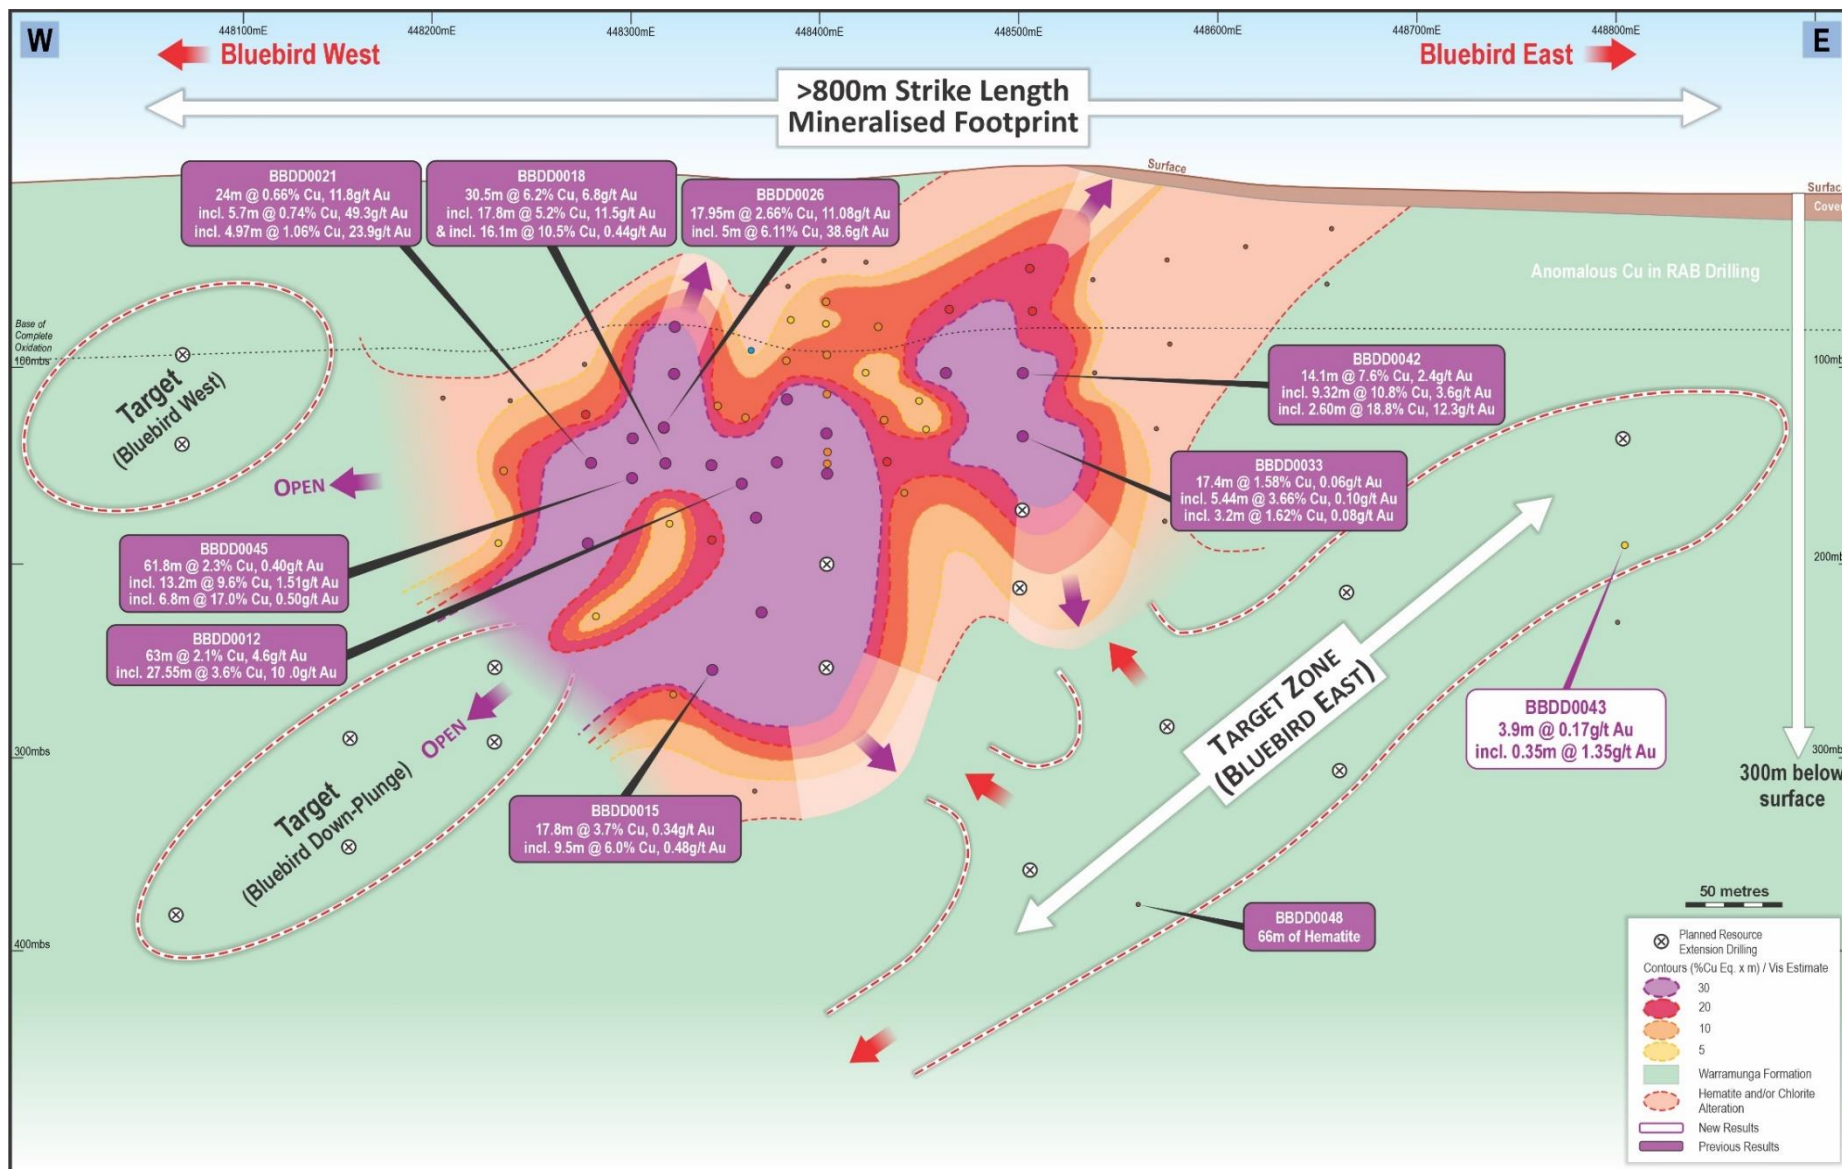

Figure 3: Bluebird longitudinal projection highlighting the outstanding high-grade intersections at Bluebird and planned drilling to expand the footprint.
- A new drilling program to commence following the Northern Territory wet season will aim to define and extend the Bluebird discovery zone (see longitudinal projection, Figure 3) and **enable a maiden copper-gold Mineral Resource to be estimated, with potential to support a stand-alone mining and processing development at the Company's Barkly Project.**
Ongoing metallurgical test-work includes the flotation and gravity concentration on the composite samples from a higher-grade composite including an additional high-grade gold zone in BBDD0045, and a composite from drillhole BDD0046 (**36.7m @ 1.14% Cu, 0.08 g/t Au³** - BBDD0045 is directly above BBDD0046, see Figure 3 below). Results for this test work are expected in the coming weeks.
The Company is preparing to commence further drilling at Bluebird (see Figure 3) and along the highly prospective 2.5km Bluebird-Perseverance Corridor³ in the coming weeks, at the onset of the dry season in the Northern Territory.